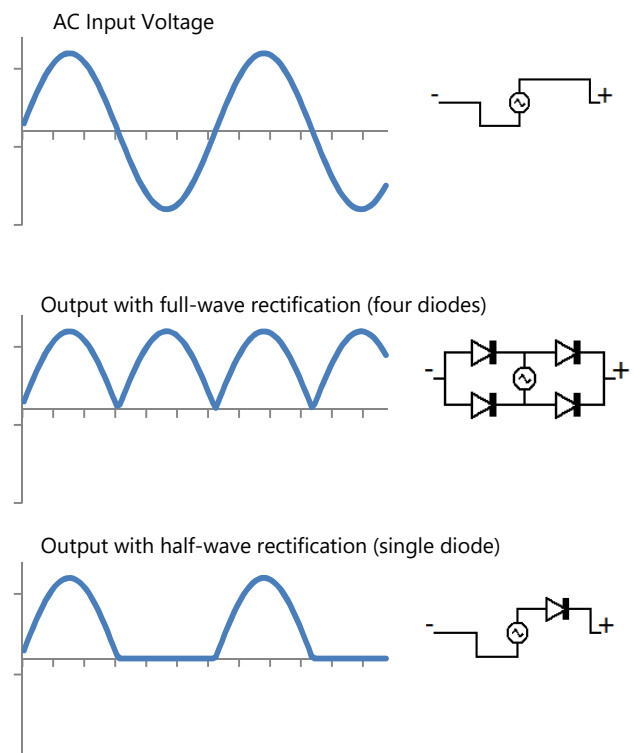

Figure 1 Input and Output Waveforms for Full- and Half-Wave Rectification Stages
The first step in the process is to rectify the high voltage AC sinusoid such that the remainder of the circuit is only ever exposed to positive voltage. This is achieved by passing the sinusoid through either (1) a full bridge rectifier composed of four diodes, or (2) a single diode that blocks the negative part of the sinusoidal voltage, as shown in Figure 1.
Using resistors for both Z_1 and Z_2 will generally result in a poor power supply design. Good power supplies support a range of output current from V_{out} while holding the output voltage constant. In a resistor-based design, if there is *any* load current then the voltage drop across Z_1 will increase and V_{out} will correspondingly decrease, which is undesirable. Another issue is that if V_{in} were to decrease, then V_{out} will decrease by the same proportion. Given that V_{in} varies significantly over time (see Figure 1), we know with certainty that V_{out} will also vary over time as well, which is again undesirable.
A rectified sinusoidal AC input voltage (as shown in Figure 1) has periods of time where the instantaneous V_{in} has a smaller magnitude than the DC output (Zener) voltage. To prop up the DC output voltage during these periods, a capacitor is added to V_{out} . This capacitor allows V_{out} to "ride through" the periods of small instantaneous AC voltage.
If half wave rectification is used, a single post-Zener blocking diode may be used with no pre-Zener blocking diode. Post-Zener blocking diodes provide greater benefit in a half wave rectified circuit because (as shown in the waveform of Figure 1) at least 50% of the time, V_{in} sits at 0V, which is less than the output voltage, giving plenty of opportunity for capacitor leakage through the Zener. The leakage is even more evident in low voltage Zener diodes (<6V typically) because their current-voltage curve tends to be "softer"—that is, the Zener may start conducting current well before the Zener voltage is reached. In many cases, however, the leakage currents even without a Post-Zener blocking diode is usually low enough that it is not a concern.
R_1 will pass an average current based on the average voltage applied across it. For a full wave rectified AC input, this means the output current will be based on the average of the absolute value of the AC waveform. Looking back at Figure 1 for the full wave output, we see that simply calculating the average AC voltage for the positive $\frac{1}{2}$ of one sine wave period will provide the average AC voltage for the entire waveform.